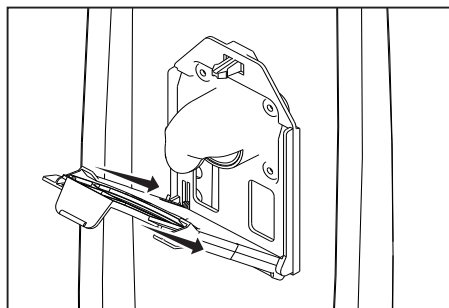

Fig. 3
- To install a new bag, slide the bottom of the green bag collar into the bag holder until it “snaps” into place (Fig. 3).